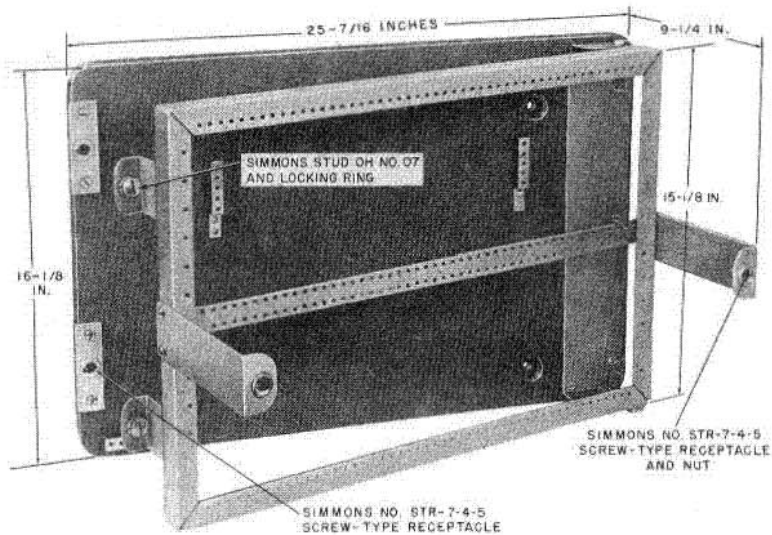

Fig. 4—16A (MD) Apparatus Mounting
3.02 The 16A (MD) apparatus mounting (Fig. 4) is a hinged metal framework plus backboard used primarily for panel-type 200-series KTUs. It has twice the capacity of the 31A (MD) or 31B apparatus mounting and can be wall-mounted or floor-supported (using ED-95023-70 metal stand). For attaching the hinged gate of the 16A (MD) apparatus mounting to a metal backboard, use the D-179863 kit assembly. This kit consists of a die-cast aluminum backboard as used with the 16C apparatus mounting, a U-channel detail, and two 66B1-25 connecting blocks.